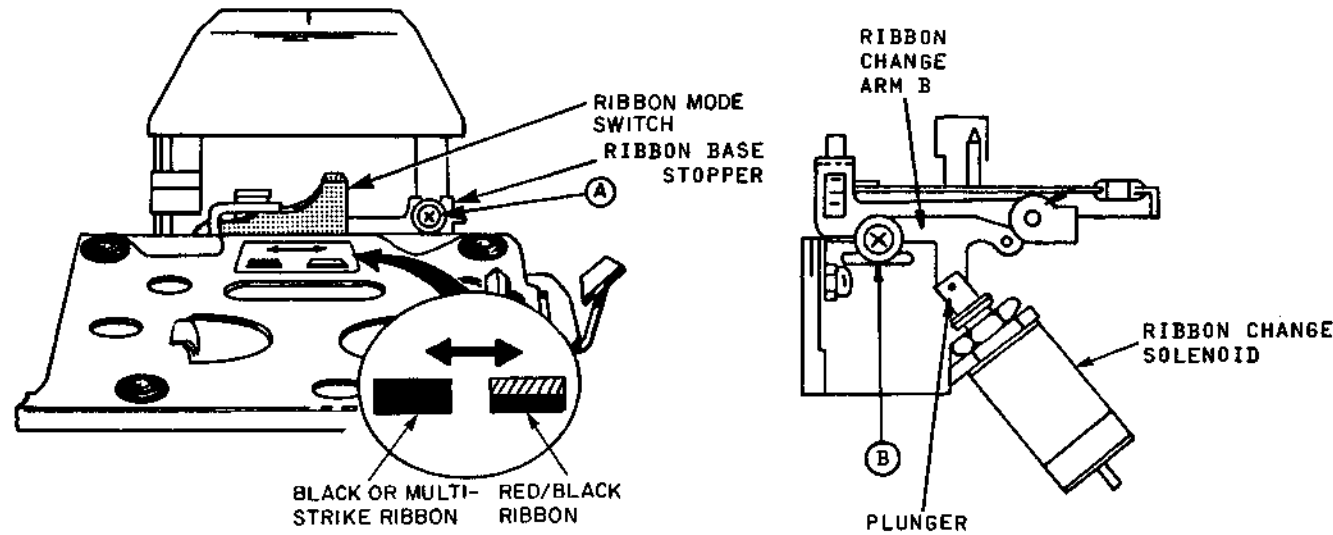

Figure 5-3 Ribbon Color Change Adjustment Location
- Refer to Figure 5-3. Slide the ribbon mode switch to the red/black position.
- Adjust the ribbon base stopper using screw A (Figure 5-3) so that the gap between the ribbon top edge and the top projection of the card holder bracket (Figure 5-4) is within the range of $0 \text{ mm} \pm 0.1 \text{ mm}$ ($0\text{-inch} \pm 0.004\text{-inch}$).
- Loosen adjusting screw B shown in Figure 5-3.